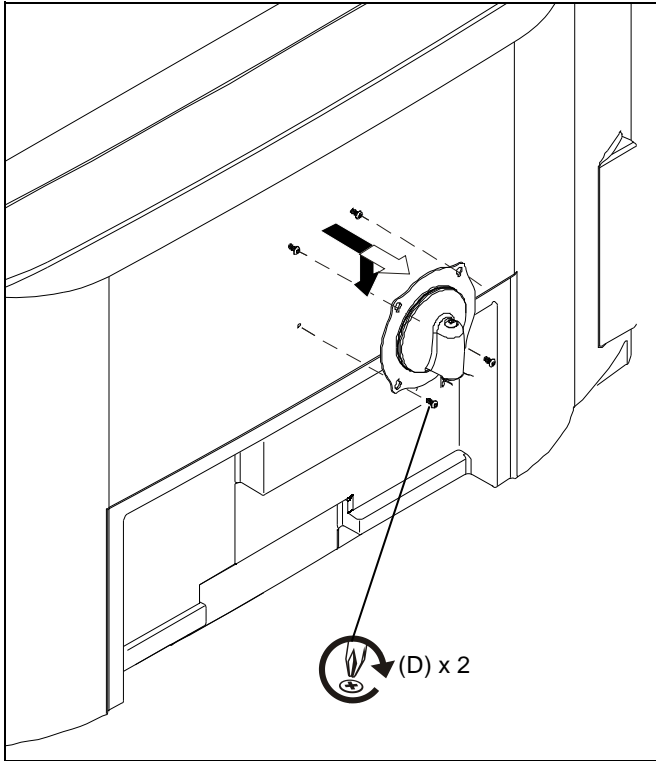

Figure 8
3. Place two screws in display back into upper teardrop mounting holes in display mounting plate and lower display until screws are seated in lower area of teardrop mounting holes. (See Figure 8)
4. Install two screws (D) through display mounting plate and into lower mounting holes in display back. (See Figure 8)